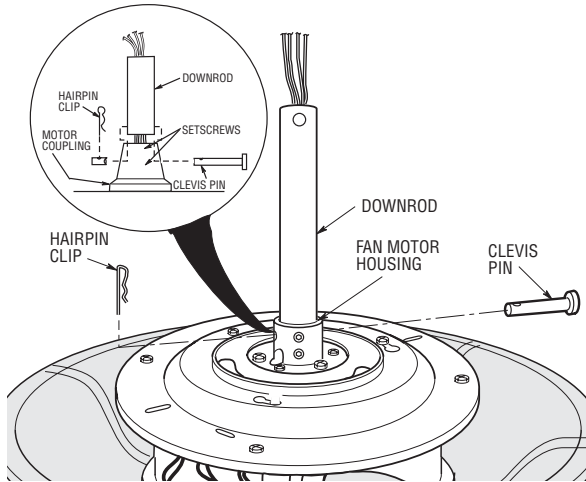

Figure 7
- 16. Slide the downrod down the wires and seat the downrod in the motor coupling (Figure 7).
- 17. Loosen the two setscrews in motor coupling if necessary. Separate, untwist and unkink the three 80" motor leads. Route the motor lead wires through the desired downrod. Align the clevis pin holes in the downrod with the holes in the motor coupling. Install the clevis pin and secure with the hairpin clip (Figure 7). The clevis pin must go through the holes in the motor coupling and the holes in the downrod. Be sure to push the straight leg of the hairpin clip through the hole near the end of the clevis pin until the curved portion of the hairpin clip snaps around the clevis pin. The hairpin clip must be properly installed to prevent the clevis pin from working loose. Pull on the downrod to make sure the clevis pin is properly installed.